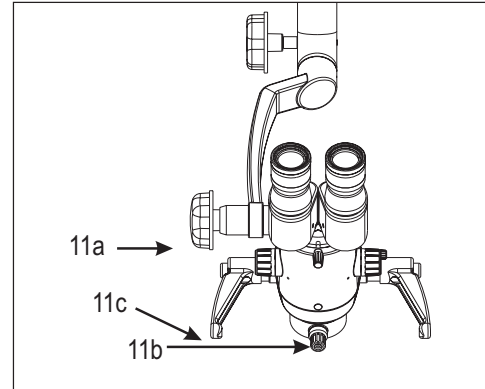

Fig. 11
Setting up of magnification (Ref. Fig. 11)
- 5 The illumination is controlled through the control knob (A), fig. 11. Rotate it clockwise or anti clock wise to achieve desired illumination level.